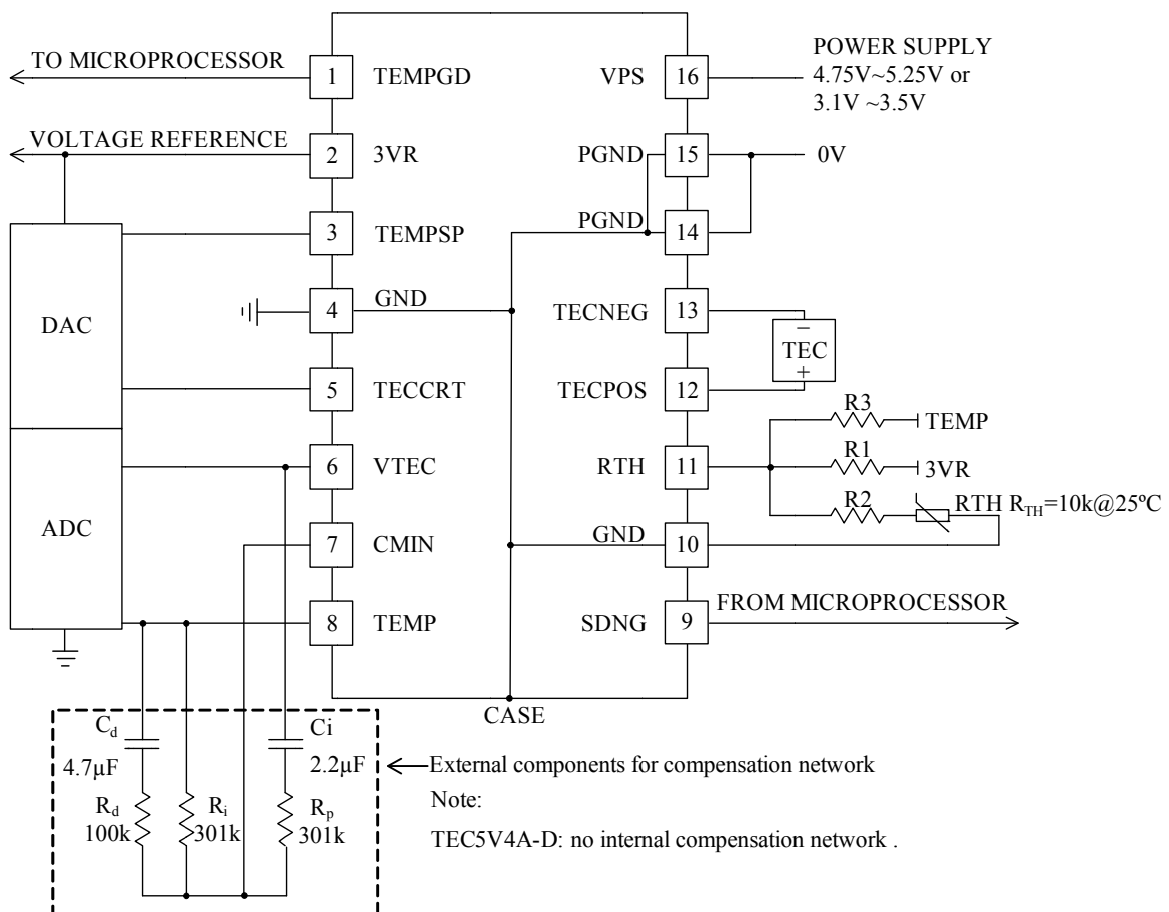

Figure 4. TEC controller connections
TEC controller connections are shown in Figure 4.
**Note:** This TEC controller doesn't come with an internal compensation network and we don't recommend using internal compensation network either. The compensation network is made of 5 components: 3 resistors and 2 capacitors and the values of the components in the network are the default values shown in Figure 4. Implementing the network externally is highly recommended since it can be modified for driving different thermal load and/or the thermal load characteristics is not certain or fixed at the early design stage.